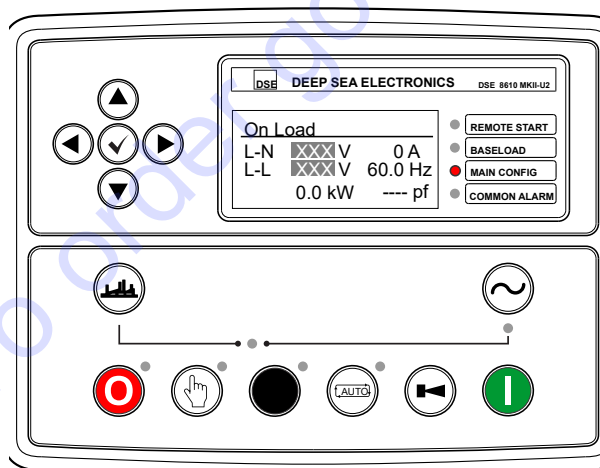

Figure 48. Main Status Screen
18. Next, verify that the **main status screen** (Figure 48) is displayed.